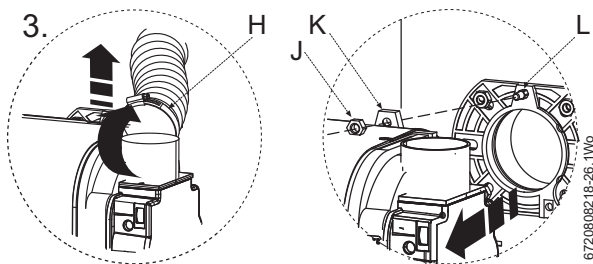

Fig. 37
- Uncrew to loosen the retaining ring (H) that secures the flexible air supply tube to the burner (I) and pull the flexible air supply tube free from the burner (see figure 37).